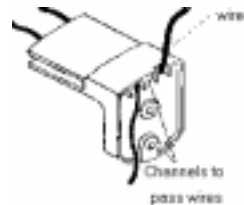

Fig.4
3. Remove blind flanges on the bracket to enable wire passage toward the unit where required. Route wires up or down as required, through wire channels in the bracket, so that the bracket will rest against the wall without pinching any wires. After routing wires, fix the bracket in position on the wall (fig.4).